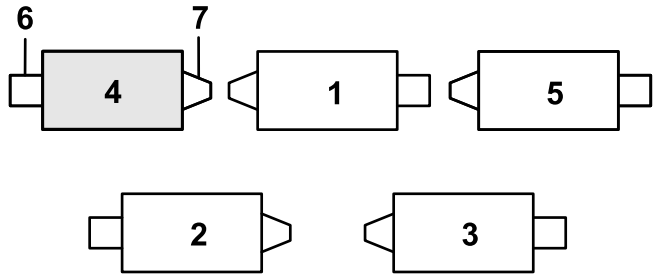

**Figure 4**
3. Make sure that the counterweight (Figure 4) is installed at the proper end of the cutting unit as described in the cutting unit *Operator's Manual*.